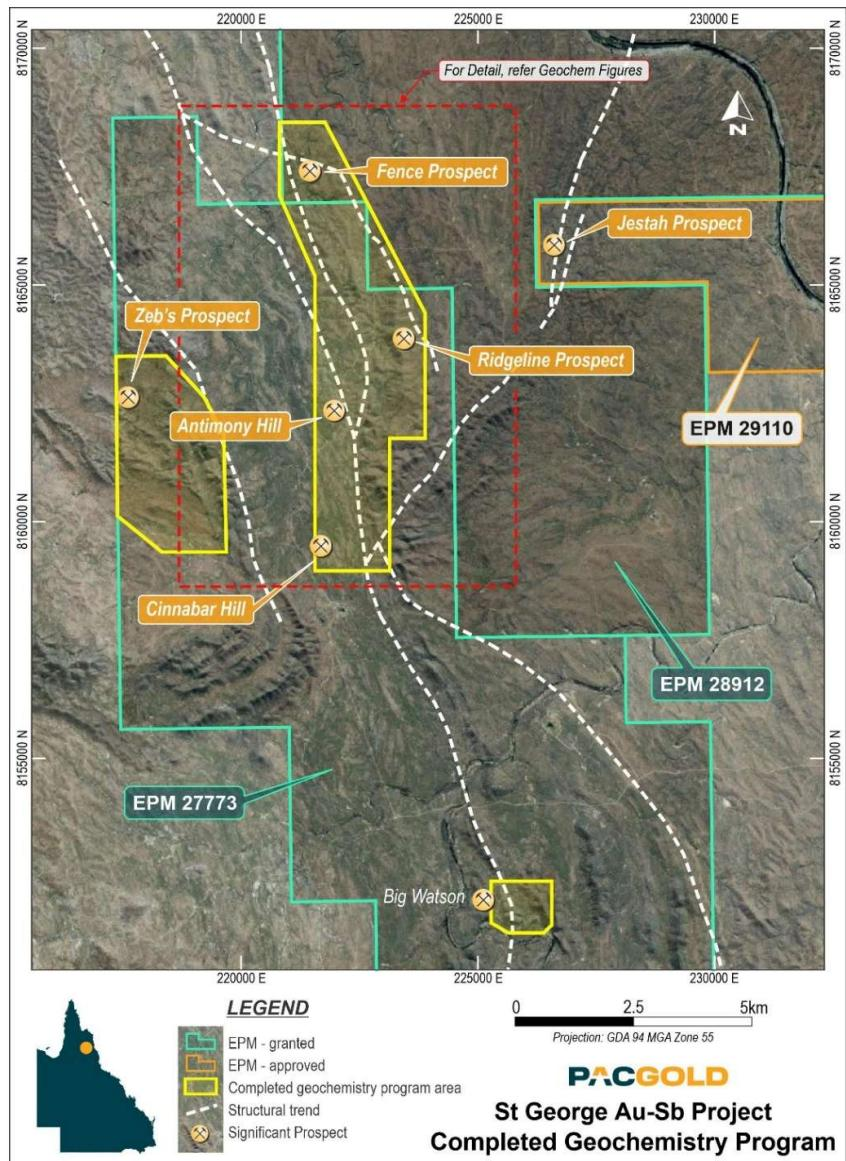

Figure 6: Location of geochemical soil and rock chip sampling programmes – Fence, Ridgeline, Big Watson and Zebs Prospects
Three geochemical soil sampling programmes were completed in October 2025 for a total of 2,050 samples at the Fence-Ridgeline (1,822 samples), Big Watson South (100) and Zebs Prospects (128). Figure 6 displays the soil sampling locations.